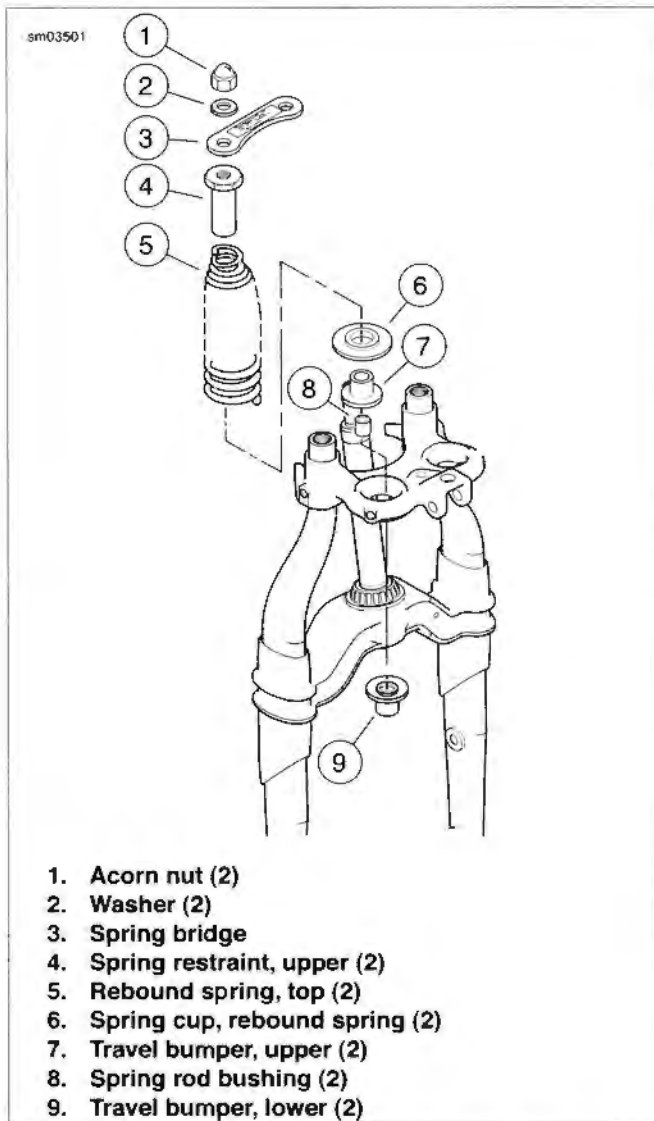

Figure 2-74. Rebound Spring: Assembly
13. Make sure bearing (5) is properly inserted in rocker (4).
14. Install thick head pivot stud (3), from outboard side, with thick washer (6) and nut (7). Tighten nut to 45-50 ft-lbs (61.0-67.8 Nm).
16. See Figure 2-74. Lubricate spring rod bushing (8) and place on spring rod. Slide bushing down until it bottoms in lower rubber travel bumpers (9).
17. Install upper rubber travel bumpers (7) over spring rod and bushing.
18. Install rebound spring cup (6).
19. Install rebound spring (5).
23. See Figure 2-74. Place spring bridge (3) in position. Install washers (2) and acorn nuts (1). Tighten acorn nuts to 30-35 ft-lbs (40.7-47.5 Nm).